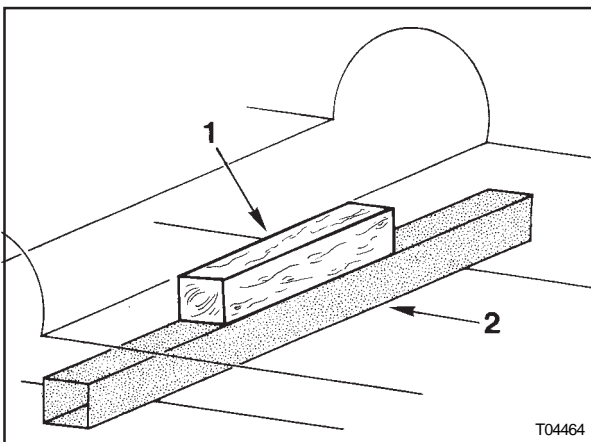
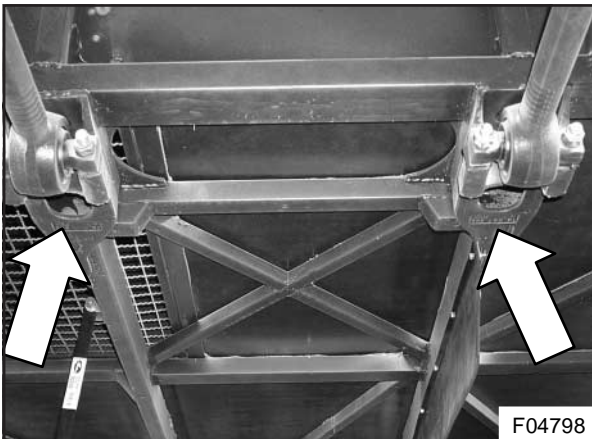

Figure 1: Chassis frame support
Figure 2 : Foremost C-beam trackrod anchor points
- 3) Support the chassis frame with a steel box girder and a wooden block (see Figure 1) at the foremost C-beam track rod anchor points (see Figure 2).